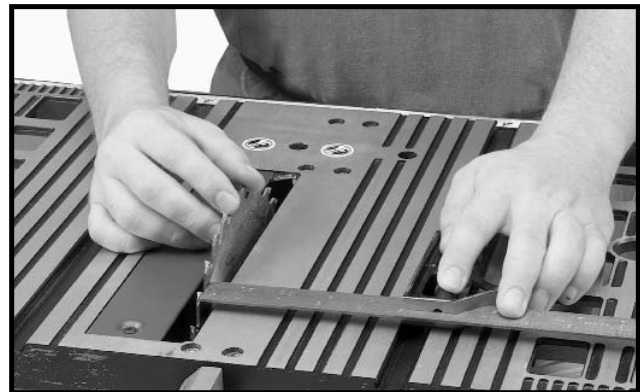

Fig. 36
4. Rotate the blade and check the same marked blade tooth at the rear of the saw table (Fig. 36).